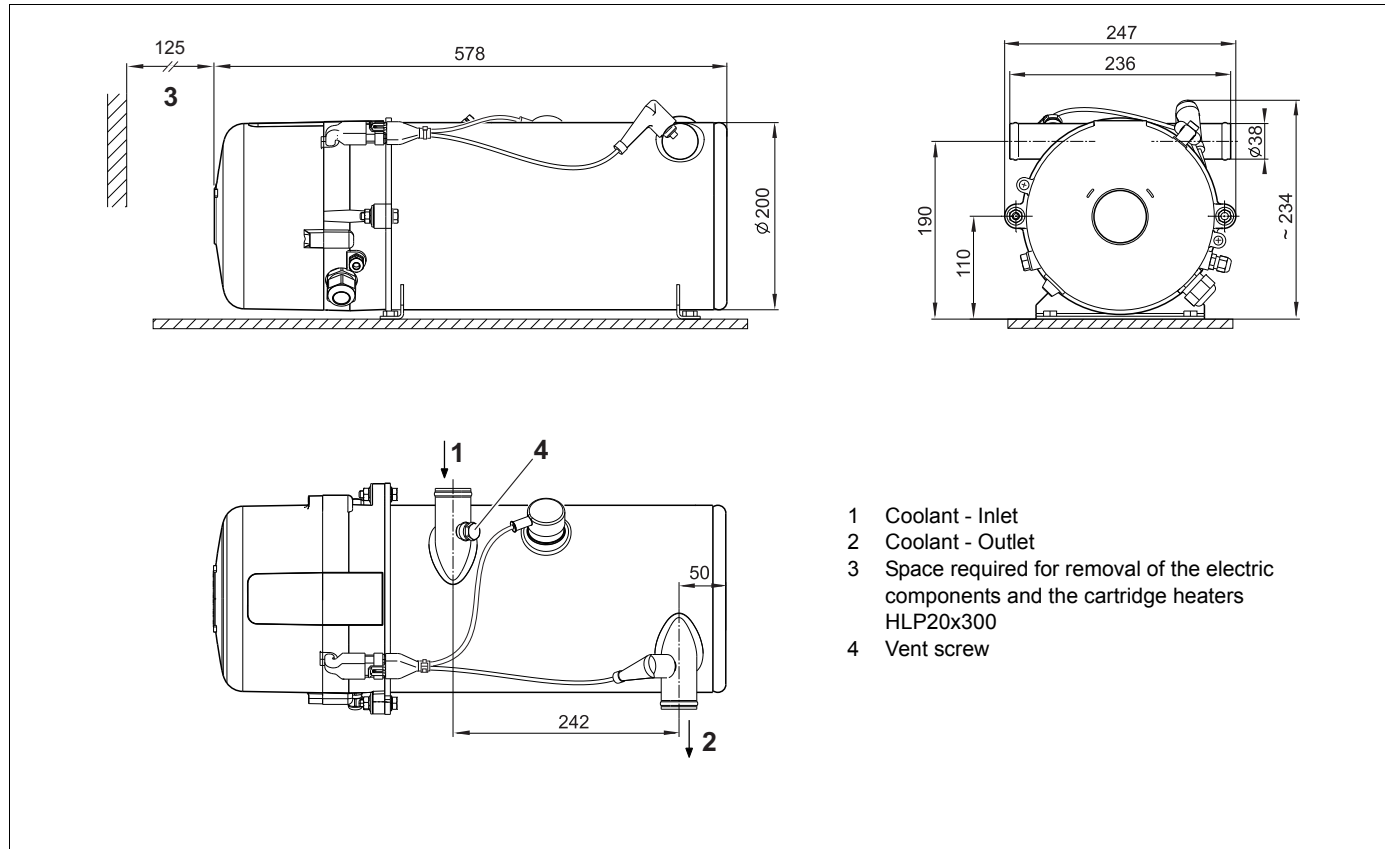
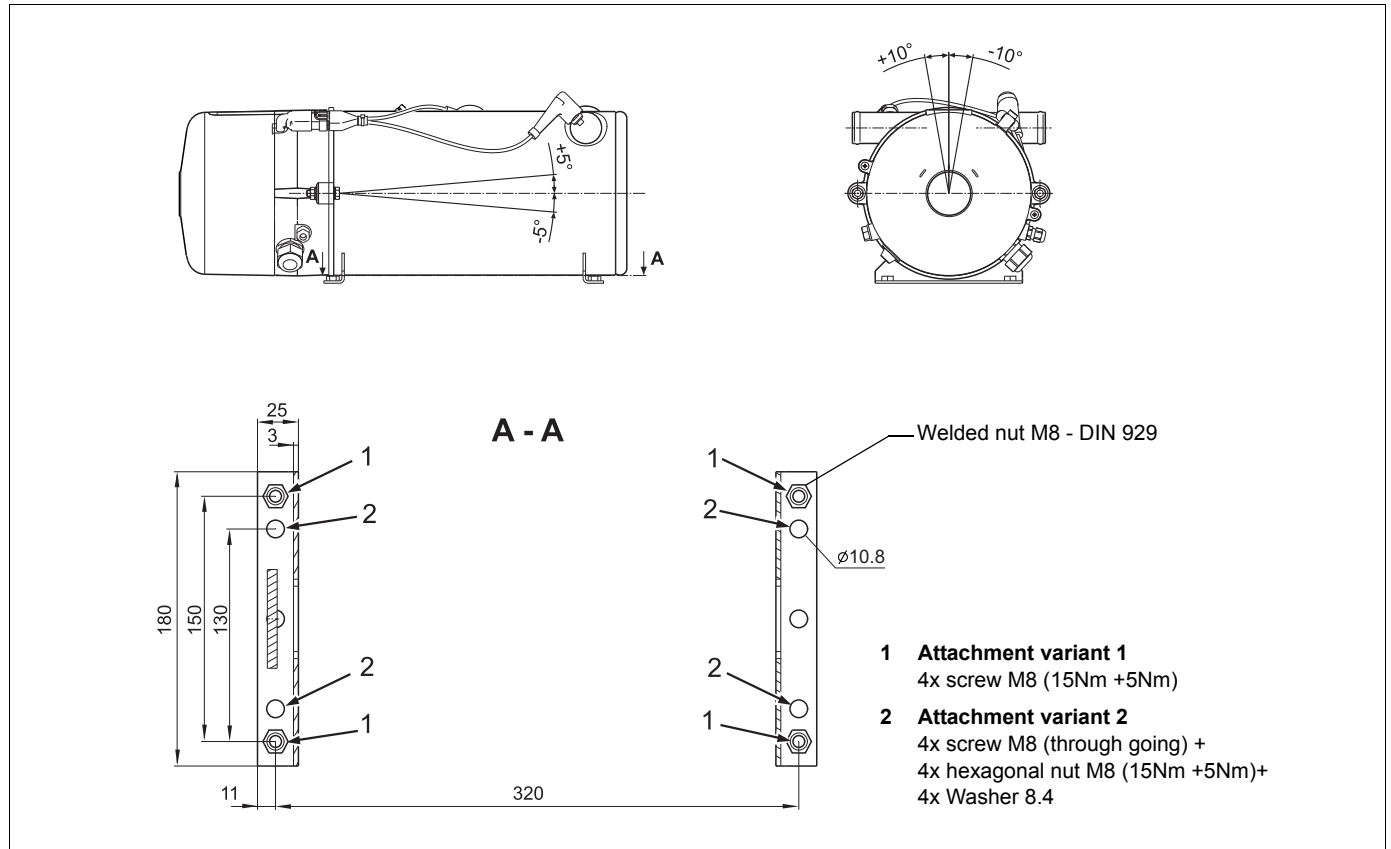

Figure 9: Dimensions of the heating appliance Thermo DC
Figure 10: Installation position and hole pattern Thermo DC
The heaters are approved for horizontal installation only (see Figure 10). The dimensions of the heating appliance, the permitted installation locations, and the hole pattern for the fastening can be found in figures 9 and 10.
The heating appliance is connected to the vehicle's cooling system according to figure 9. The volume of coolant fluid present in the circuit must be at least 25 liters. The water in the heating circuit of the heating appliance must contain at least 30 to 60% of a branded antifreeze agent. An up-to-date list of Valeo recommended anti-freeze agents can be found on the Valeo website.
When installing the electric heater the direction of the flow of the cooling water in the circuit is to be considered (see figure 9).
For that the additional venting option via the vent screw item 4, figure 9 is to be used after the system has been filled and the pump has been switched on.